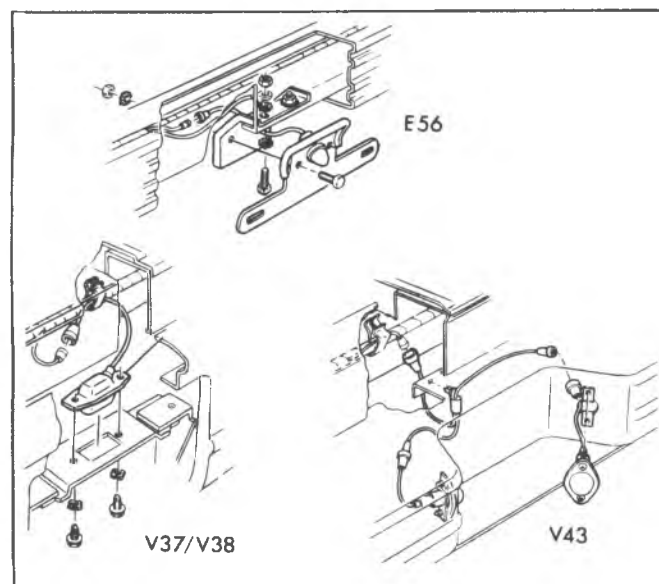

Fig. 8A-10—License Plate Lamps (C-K Series)
**G Series (Fig. 8A-11)****Replacement**